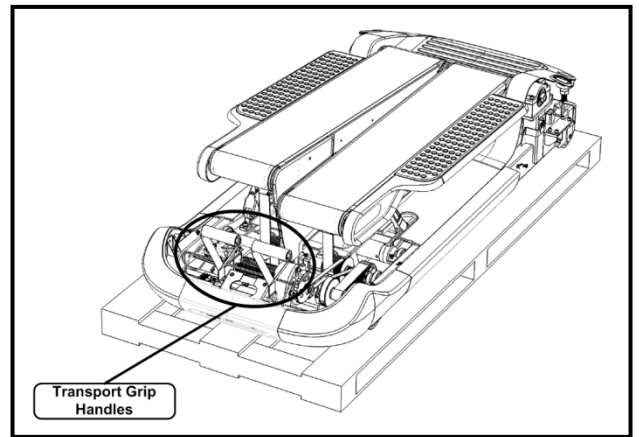

Fig. 4
4. To move the TreadClimber[®] off the pallet; remove the alternator shroud to expose the transport grip handles. With two people and each gripping a handle; drive the base off the rear of the pallet (Fig. 4).